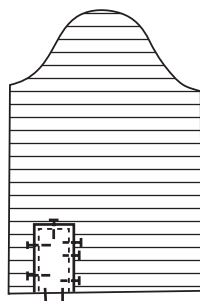

Figure 3
4. Pin the facing to the sleeve with right sides together, centered over the facing markings (Figure 3).